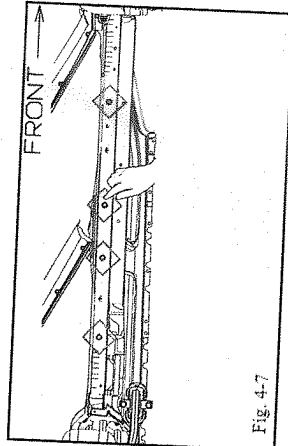

Fig. 4-7
- (j) Apply four (4) mylar stickers ② into the remaining open holes on the bottom of the rocker to seal them (Fig. 4-7).